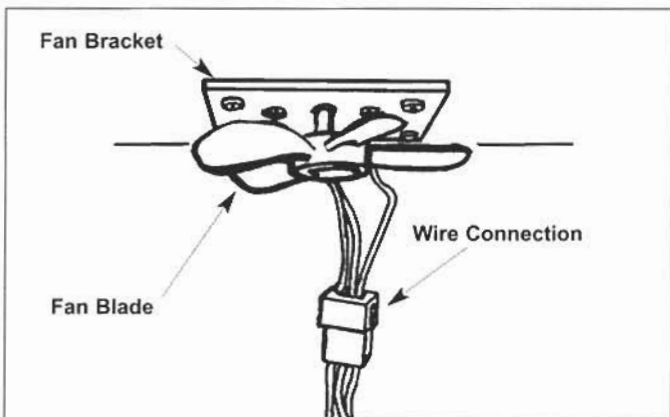

Figure 2-26. Evaporator Fan Blade Assy.
5. Remove the fan bracket screws and pull out the bracket and fan motor assy. (Figure 2-26).
6. Disconnect the motor electrical connection (Figure 2-26).